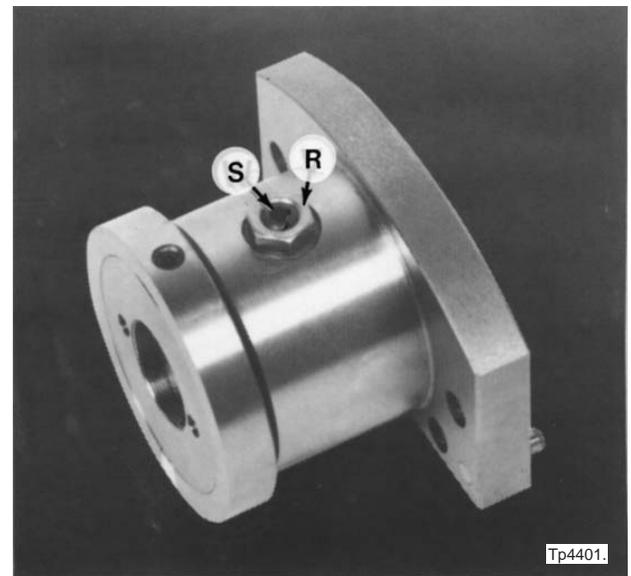

Figure 2.19 - Stop Screw for Handle
- m) Loosen nut "R" and remove eccentric stop "S", Figure 2.19 .
After replacing eccentric stop screw "S", Figure 2.19, do not tighten lock nut "R" until instructed.
- c) Replace eccentric stop screw "S", Figure 2.19 .